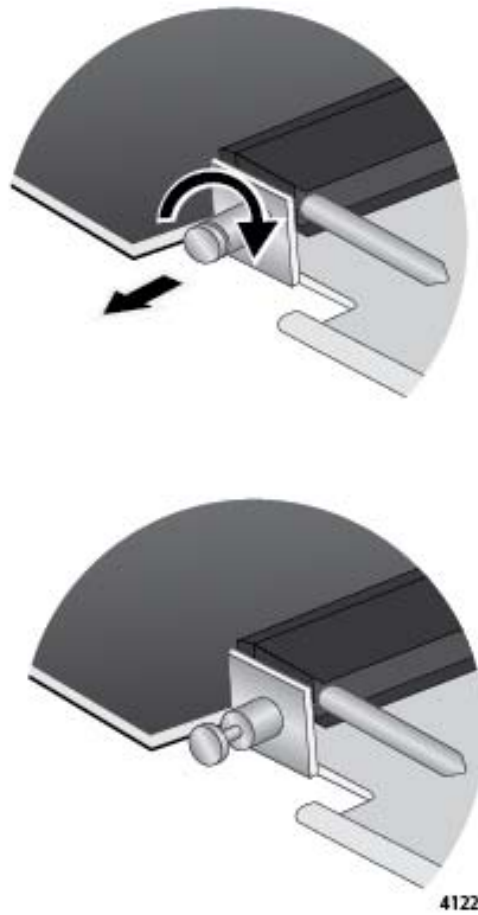

Figure 84. Retracting the Retaining Pin on the AT-SBx81XLEM Line Card
6. With your thumb and forefinger, pull out the retaining pin on the side of the line card and turn it clockwise one quarter turn so that it remains in the retracted position. Refer to Figure 84 on page 145.